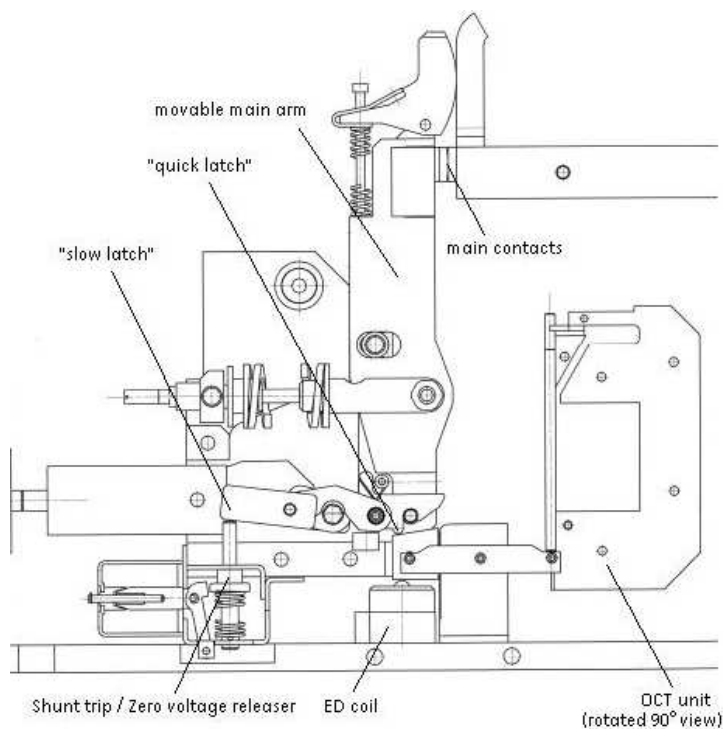

Fig. 6 Latching and tripping system
- The mechanism is provided with two tripping latches [Fig. 6]. First latch, called "slow latch", is used for opening under normal conditions, like actuation of shunt trip or zero-voltage release. The second one, "quick latch", de-clutches the main contact arm from the mechanism and opens the contacts with an extremely short delay. This is used when interrupting short-circuit or overloads. All safety releases operate onto "quick latch" latch.